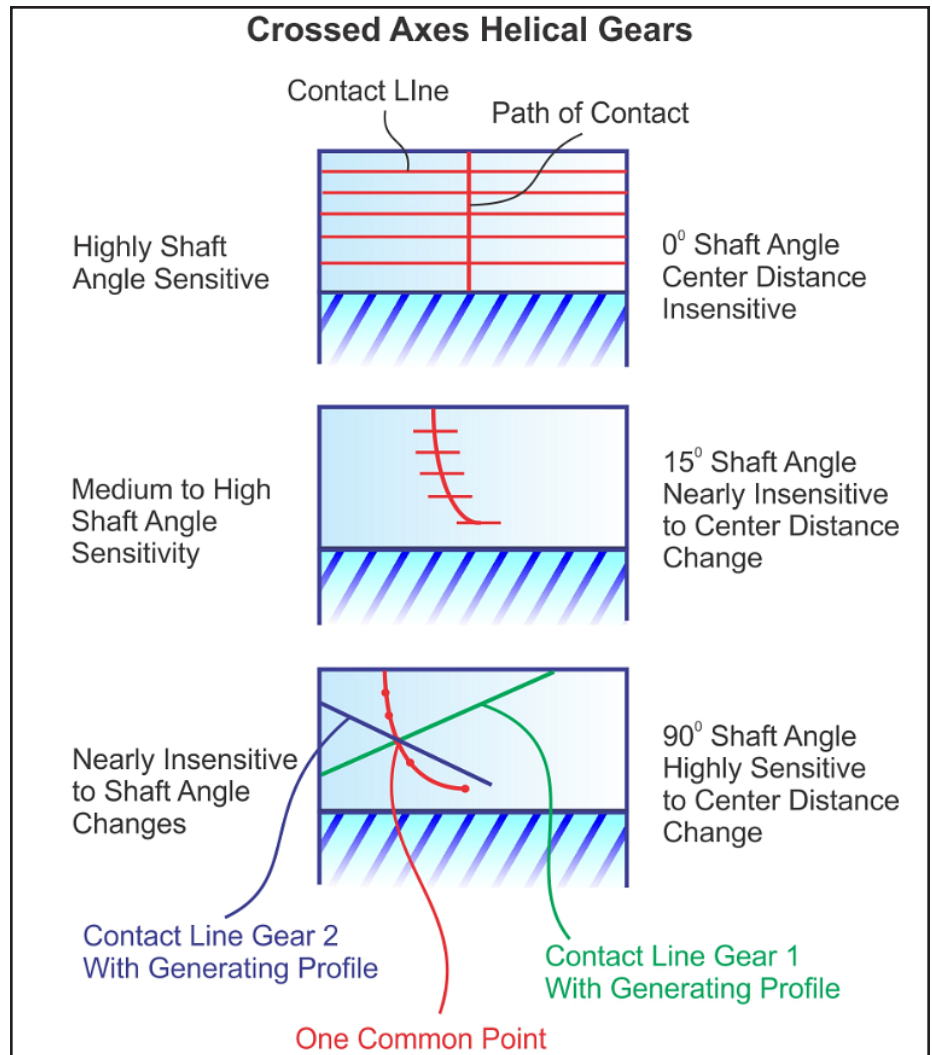

Figure 2 Crossed-axes helical gear relationships.
- In this case the path of contact is oriented in profile direction (Fig. 2, bottom)
- If the cross-axis angle is 90°, then the path of contact has the shape of a quarter circle (Fig. 2, bottom)
- If the cross-axis angle is small (close to 0°), then the path of contact has the shape of a slim quarter ellipse (Fig. 2, center)
The bottom graphic in Figure 2 shows one contact line between generating rack and gear 1, and a second contact line between generating rack and gear 2. The contact lines are crossing under an angle and have only one common point. This is why crossed-axel helical gears have point contact rather than line contact. The sum of the intersecting points of gear 1 and gear 2 define the path of contact. Only the gear pair with zero-degree shaft angle in the top graphic has matching contact lines between gear 1, generating rack, and gear 2. Only contacting points along the theoretical path of contact (in red) transmit the correct ratio.